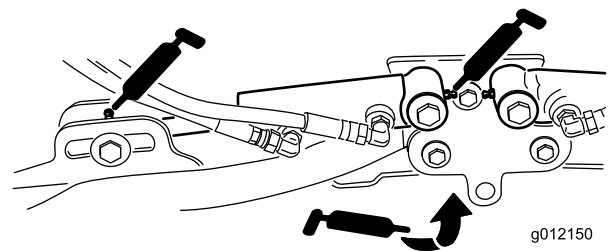

Figure 53
- Cutting unit lift arm cylinders (2 each) (Figure 53)
- Lift arm pivots (1 each) (Figure 53)